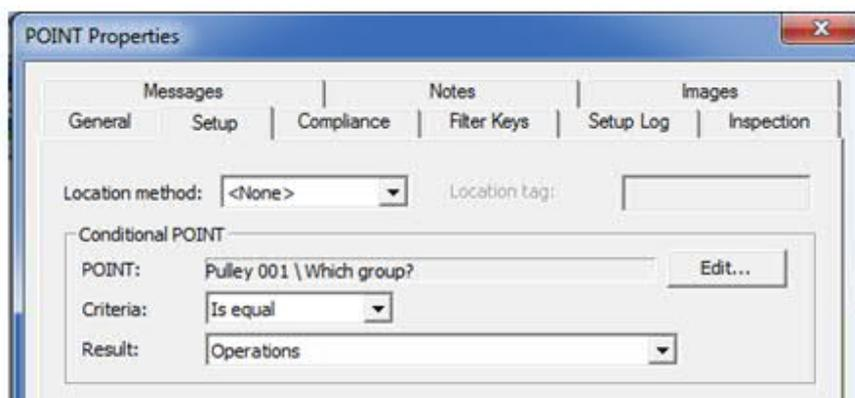

Figure 7. POINT Setup tab after selecting Conditional POINT
8. Repeat these steps for the remaining Ops POINTs. [Figure 7] The Modify by Attribute function may be used to quickly finish the remaining POINTs.